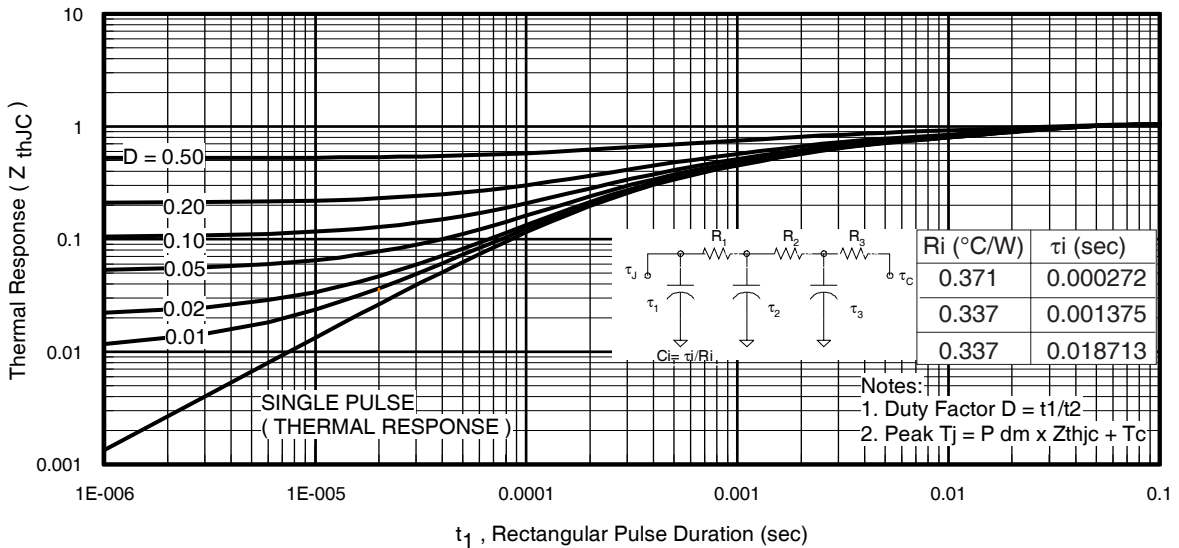

Fig 11. Maximum Effective Transient Thermal Impedance, Junction-to-Case
- ① Repetitive rating; pulse width limited by max. junction temperature. (See fig. 11).
- ② Limited by T_{Jmax} , starting $T_J = 25^{\circ}C$, $L = 0.04mH$, $R_G = 25\Omega$, $I_{AS} = 75A$, $V_{GS} = 10V$. Part not recommended for use above this value.
- ③ Pulse width $\leq 1.0ms$; duty cycle $\leq 2\%$.
- ④ C_{oss} eff. is a fixed capacitance that gives the same charging time as C_{oss} while V_{DS} is rising from 0 to 80% V_{DSS} .
- ⑤ This value determined from sample failure population, starting $T_J = 25^{\circ}C$, $L = 0.04mH$, $R_G = 25\Omega$, $I_{AS} = 75A$, $V_{GS} = 10V$
- ⑥ This is applied to D²Pak, when mounted on 1" square PCB (FR-4 or G-10 Material). For recommended footprint and soldering techniques refer to application note #AN-994.
- ⑦ R_{θ} is measured at T_J approximately 90°C.
- ⑧ This is only applied to TO-220AB package.
- ⑨ Calculated continuous current based on maximum allowable junction temperature. Bond wire current limit is 75A. Note that current limitations arising from heating of the device leads may occur with some lead mounting arrangements.(Refer to AN-1140 <http://www.irf.com/technical-info/appnotes/an-1140.pdf>)
$Z_{thJC}(D, t_{av})$ = Transient thermal resistance, see figure 11)